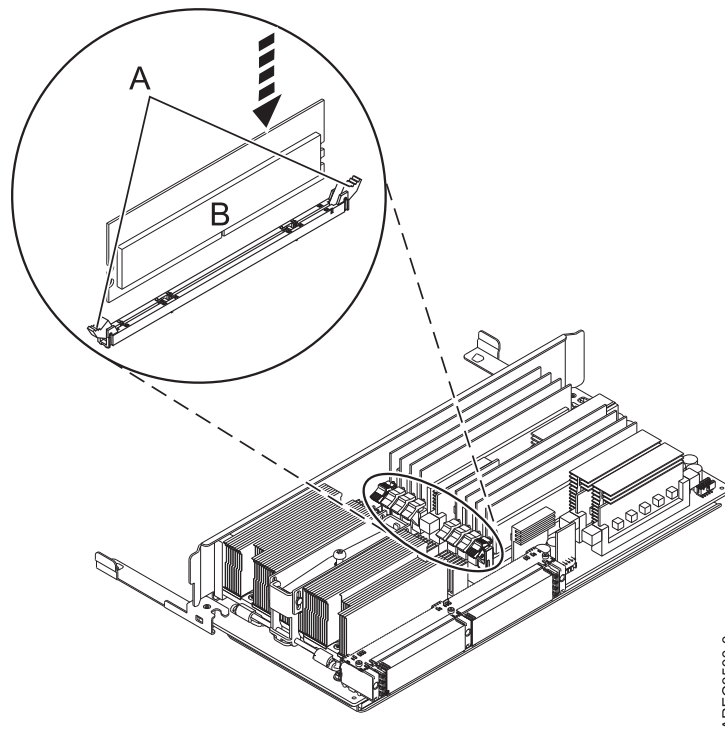

Figure 29. Replacing a memory module
7. Secure the memory module with the locking tabs **(A)** located at each end of the memory module connector, as shown in Figure 29 on page 45.